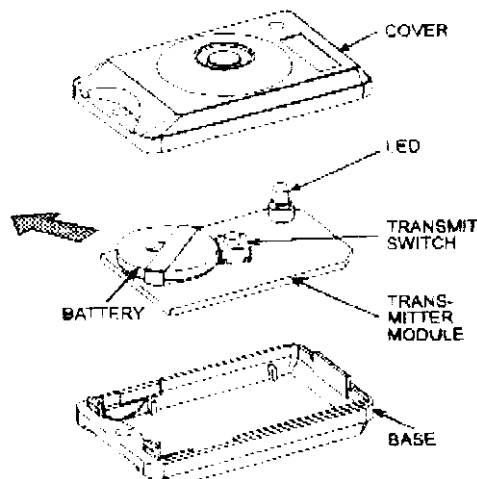

Figure 3. Battery Replacement
- 2nd. Slide the old battery from under the clip in the direction shown by the arrow in Figure 3
- 4th. Briefly press the transmit switch (Fig. 3). The on-board LED should light brightly for 2 seconds.